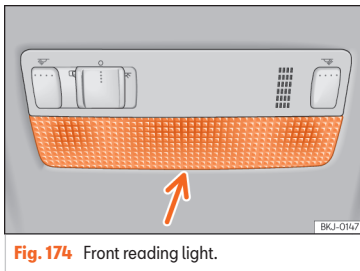

Fig. 174 Front reading light.
- Insert a fine screwdriver between the casing and the glass >>> Fig. 174.